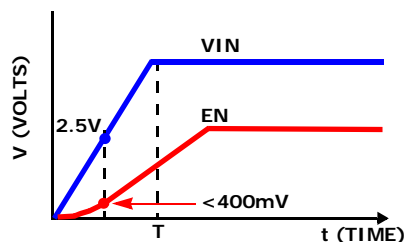

FIGURE 37. CIRCUIT IMPLEMENTATION WITH V_{IN} SLEW RATE
The enable (EN) input allows the user to control the turning on or off the regulator for purposes such as power-up sequencing. When the regulator is enabled, there is typically a 600μs delay for waking up the bandgap reference and then the soft-start-up begins. It is recommended that the EN voltage should be kept logic low (less than 400mV), until V_{IN} reaches 2.5V. Refer to Figure 37 for suggested circuit implementation with V_{IN} slew rate.